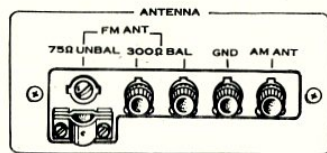

Fig. 4
- Connect the feeder wire from the antenna to the FM ANTENNA terminals on the receiver as shown in Fig. 4.